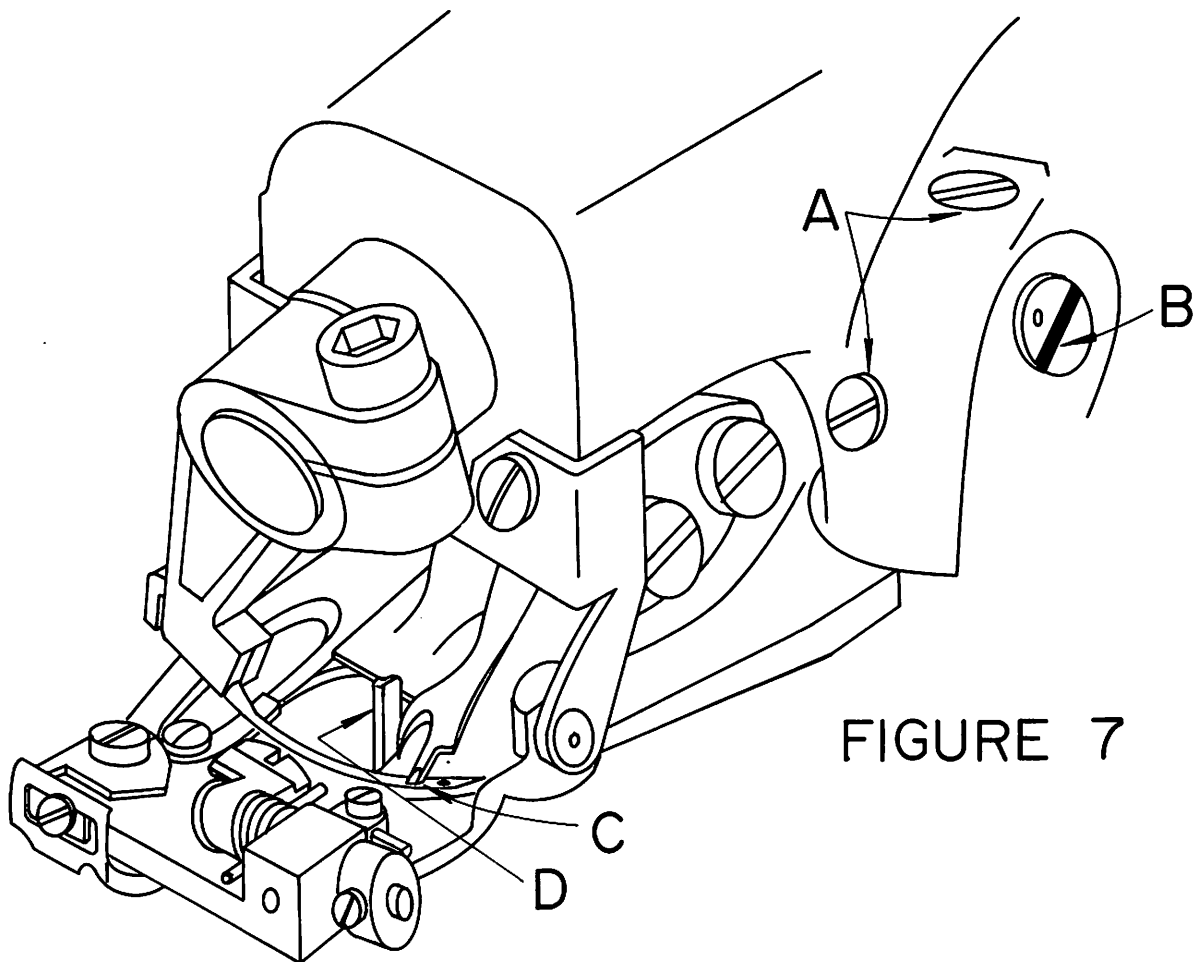

FIGURE 7
2. Any time a looper is moved or changed, recheck the looper timing and reset if necessary. Proper looper timing is absolutely essential for correct stitch formation. As described in detail below, a properly timed looper will pass over the needle in the correct position to pick up the loop, and also clear the chain-off pin, feeder, looper slot, and needle. The first check point for timing the looper is at the position where the looper picks the thread loop off the needle during the needle return stroke. Referring to Figure 7, (Point "C"), the long prong of the looper should pass over and just clear the scarf of the needle, approximately $\frac{3}{32}$ " (2.4mm) behind the end of the needle eye. At the same time, the short prong of the looper should pass over the needle with about $\frac{1}{64}$ " (.406mm) clearance, and must be so set that it also clears the chain-off pin (item "D" in Figure 7).
5. If, after completing the above adjustments, it is found that the looper is either too low or too high, it will be necessary to adjust the eccentric stud. First loosen the two set screws (item "A" in Figure 7). Place a wide blade screwdriver in the slot of the eccentric stud (item "B" in Figure 7) and, using a slight turning motion, raise or lower the looper as required. Once the proper height is established, check to see whether the looper must be moved to the left or to the right prior to retightening the eccentric block set screws. If such a movement is required, it may be obtained by lightly tapping the eccentric block in the correct direction with the handle of a screwdriver.
1. After considerable service, it may become necessary to replace the chain off pin, (Item "D" in Figure 7).